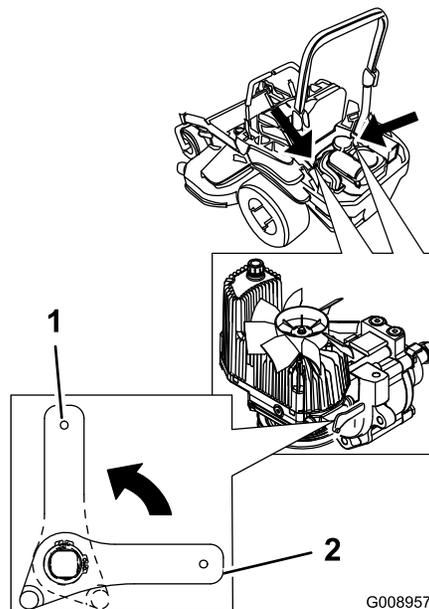

Figure 39
2. Rotate the release-valve levers vertically to push the machine (Figure 39).
4. Rotate the release-valve levers horizontally to run the machine (Figure 39).